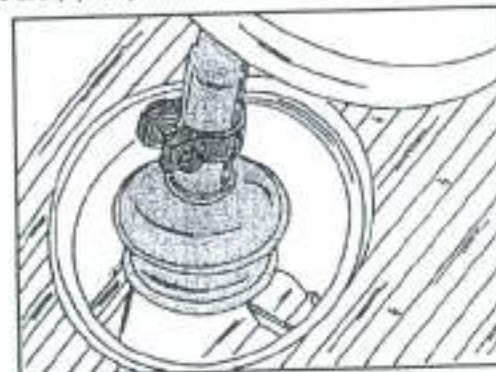

Fig. 3.1 - The upper part of the gearchange lever can be removed after slackening the clamp.
- Pull up the rubber gaiter around the gearchange lever and slacken the clamp screw shown in Fig. 3.1, detach the gaiter and remove the locking ring inside the opening (inside circlip pliers). Withdraw the lower part of the gearchange lever.